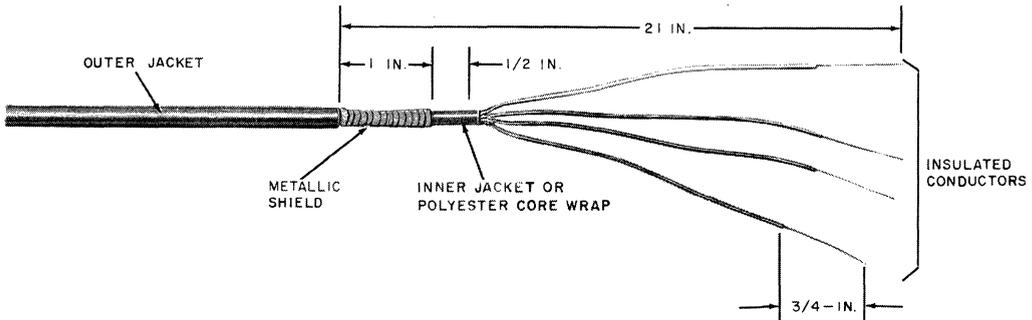

Fig. 15—Prepared Service Wire—E Cable Closure
5.06 Prepare service wire as illustrated in Fig. 15.
5.08 Prepare service wire for J cable closure the same as for E cable closure. Refer to Fig. 15.